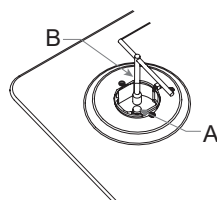

Fig. 3
2. Remove burner components 'B' and pan supports (Fig. 3).
3. Remove the injectors 'A' (Fig. 3) with a socket spanner and replace with the corresponding injectors.